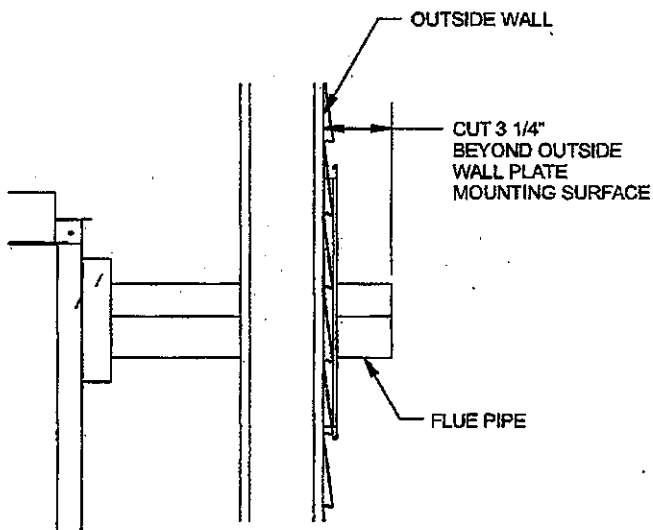

Figure 3B
8. Attach the 4" (102mm) diameter flue outlet tube onto the rigid venting system or directly to fireplace. Ensure the 4" (102mm) diameter flue outlet tube is placed as far as possible onto the rigid venting system. Mark the 4" (102mm) diameter flue outlet tube 3 3/4" (95mm) beyond the wall. See Figure 3B. Remove the 4" (102mm) diameter flue outlet tube from rigid venting system. When installing directly to fireplace, tape gasket needs to be used.
10. From outside: Push the 6 5/8" (168mm) diameter inlet tube/mounting plate onto end of rigid venting system to correct position. Fasten the outside mounting plate to the wall with (4) 10 x 2 1/2" screws. (Ensure upward slope).
11. From inside: Attach the inlet tube to the collar on the back of the fireplace (or the rigid venting system) using (3) self tapping screws.